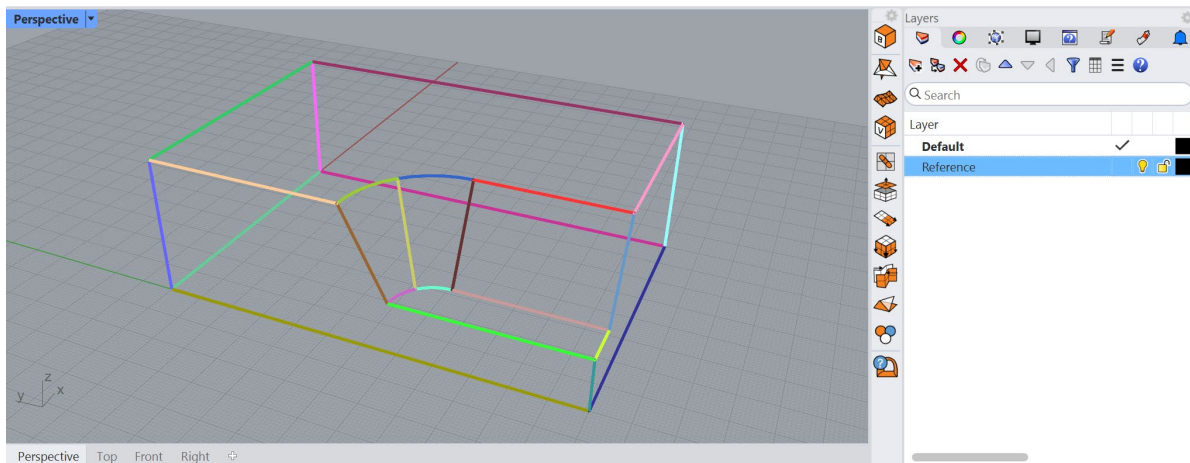
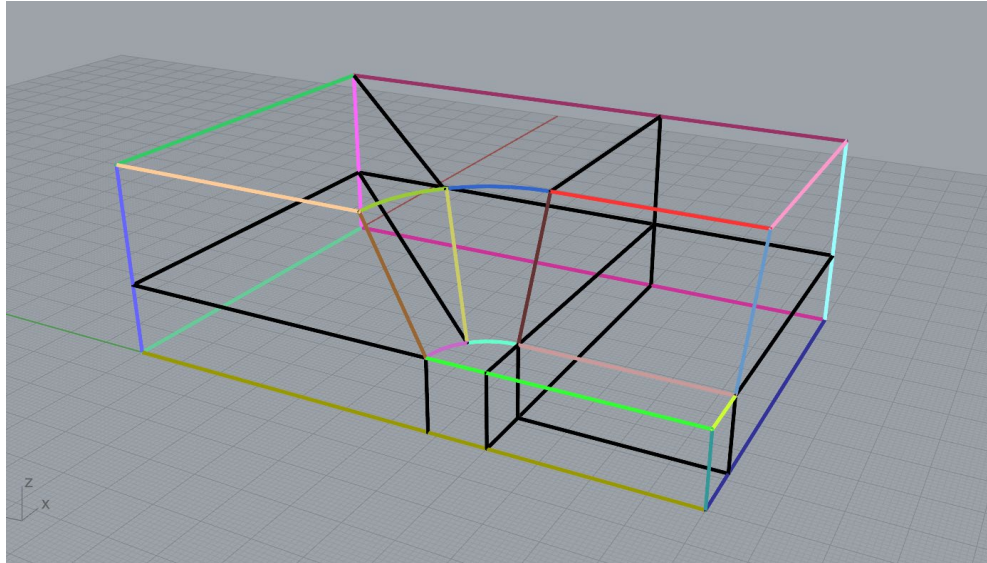

Figure 30: The reference model.
Figure 36: Creating new construction lines (in black).
5. Navigate to the *Layers* panel as shown in Figure 30. If the panel is not visible, open it by going to **Edit** → **Layers** → **Edit Layers...** In the *Layers* panel, rename the automatically created layer “lines” to “Reference” and delete all layers except “Default” and “Reference”. Ensure that all objects are now in layer “Reference” by selecting all objects and navigating to the *Properties* panel (or press **F3**).
6. Select all objects and type the command **_Move**. For the *Point to move from*, select the bottom-left corner of the model and for the *Point to move to*, type 0, and press Enter. This will move all objects and align the bottom-left corner of the model with zero coordinates. Compare the results with Figure 30.
8. Starting with the reference model presented in Figure 30, create new construction lines as shown in Figure 36. Use the **_Line** command and start by connecting nodes from the middle of the model (where the curved segments are) to the sides of the model. Pay attention to when the mouse tooltip shows “Perp” or “Perp, Int” (or other types of intersections), which means that the line under construction is perpendicular to (and intersects) another line.
The curves created in the previous step (Figure 30) are polylines, and some of them are composed of multiple linear segments that cannot be used directly to build surfaces. They must be retraced with arcs (**Curve** → **Arc**) or higher order curves (**Curve** → **Free-Form** → **Interpolate Points**) to create simpler curves with nodes at their ends only.